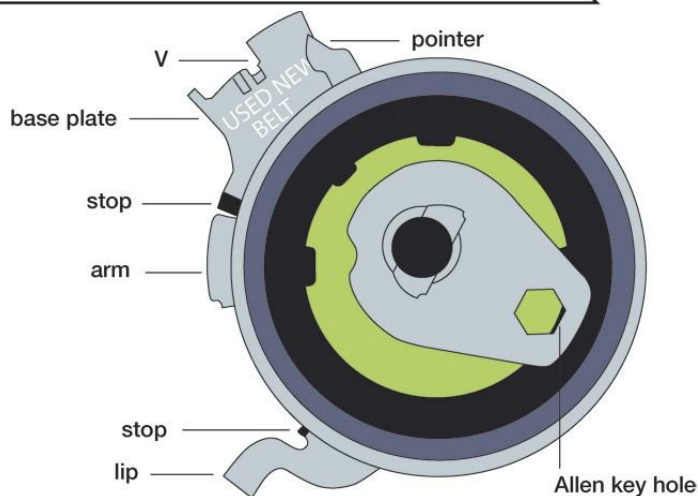

Fig. 2
8. Turn tensioner (with allen key) anti-clockwise (while holding the bolt in place) till pointer is in line with (not passing) right hand side of base plate (Fig. 2)